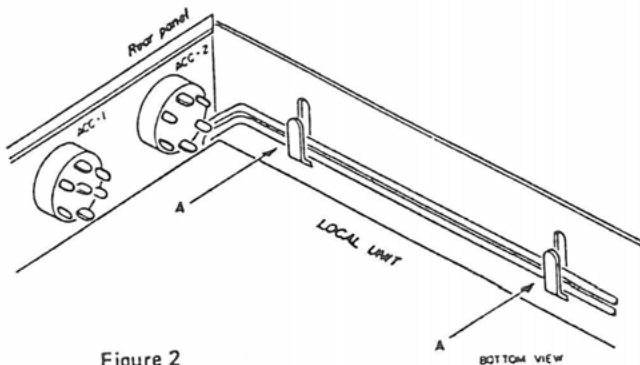

Figure 2
2. Referring to Figure 2, carefully bend the two chassis clips (marked A) slightly inwards about 5mm so that the two gray shielded cables can be removed from the clips. It is not necessary to disconnect these cables from the pc-board.